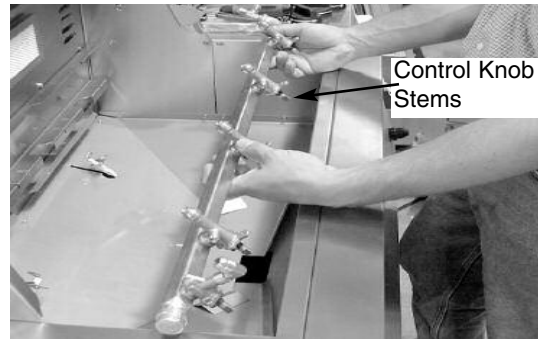

Fig 19
18. Start by placing the new manifold into the grill body with the control knob stems going outward through control panel front. (See Fig. 19)